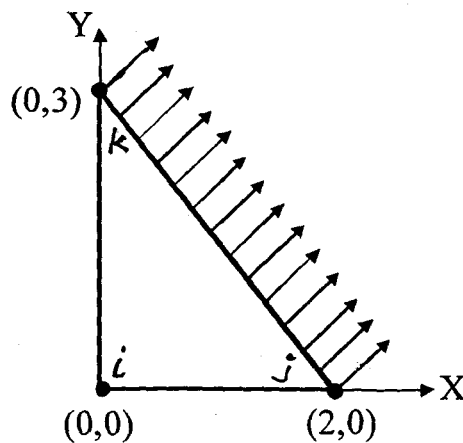

Fig. 4
- 7) For the 3-node plane stress element shown in Fig. 4, determine its element equation. The connectivity of the element is i - j - k . The element has a pressure of magnitude 2000 unit perpendicular to the side j - k and is subjected to a temperature rise of 30° . Take $E = 30\text{E}6$, $\nu = 0.25$, $t = 1.0$, $\alpha = 7\text{E-}6$. Symbols have their usual meaning and all the values are in consistent units. No derivation is necessary.